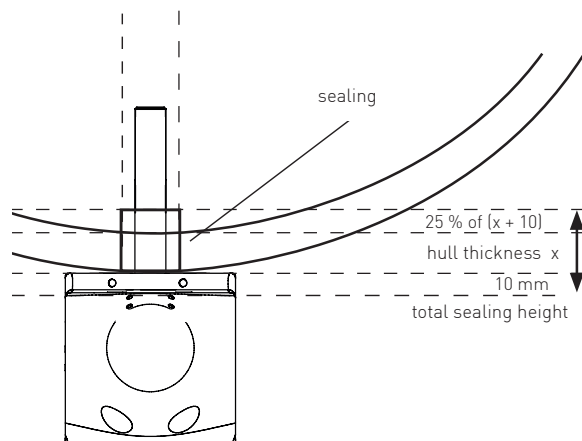
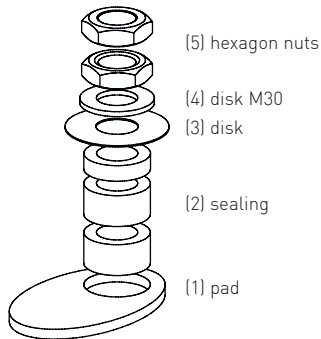

Fig. 10: Drilling and total sealing height
Fig. 12: main connection GRP
Bolt down the thruster via the main connection, thereby paying attention to the right number of seals (fig. 10). The sequence corresponds to the one in fig. 12, whereby, depending on the hull thickness, several seals (2) must be used. It is to be considered that those seals are compressed by about 25 % when tightening the bolts (fig. 10).
Bolt down the thruster via the main connection, thereby paying attention to the right number of seals (fig. 10). The sequence corresponds to the one in fig. 20, whereby, depending on the hull thickness, several seals (1) must be used. It is to be considered that those seals are compressed by about 25 % when tightening the bolts (fig. 10).